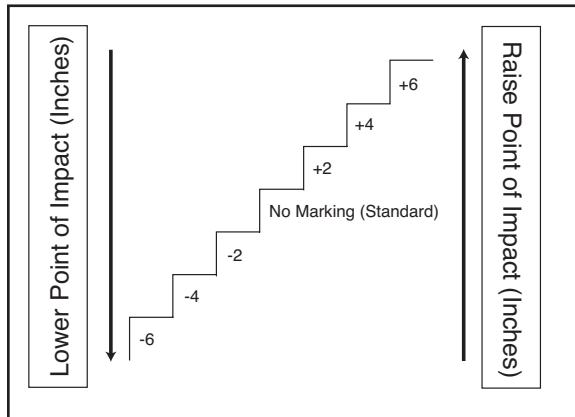

Figure 14
6. Select a higher or lower rear sight from Figure 14.